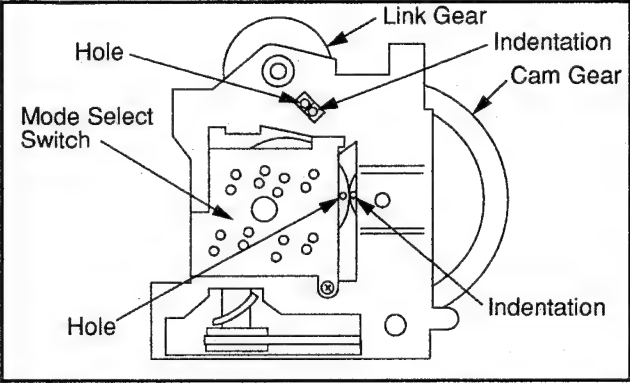

Fig. A4
2. Install the Mode Select Switch so that the Hole on the Mode Select Switch aligns with the Indentation on the Cam Gear. Refer to Fig. A4.